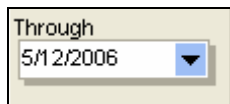

Figure 17.2.8
5. Enter the date that you want the program to stop (Figure 17.2.8).